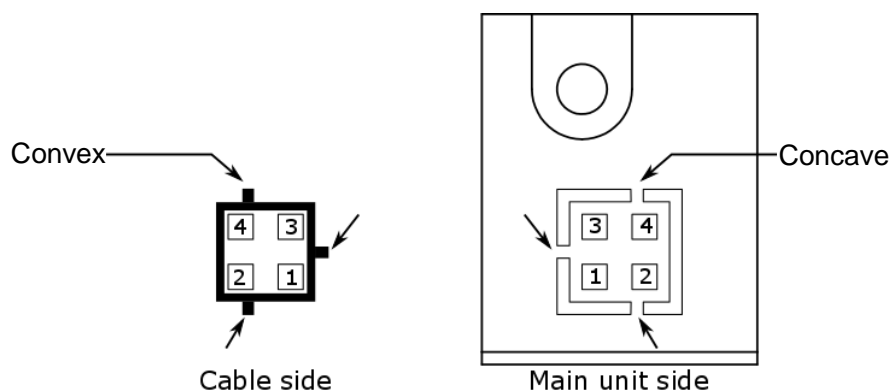

Figure 1-2 Pin assignment
- There are concave and convex parts for the power connector, as shown in Figure 1-2, to prevent the wrong connection. If the orientation of the connector is correct, excessive force is not required. Please be careful of the orientation of the connector.